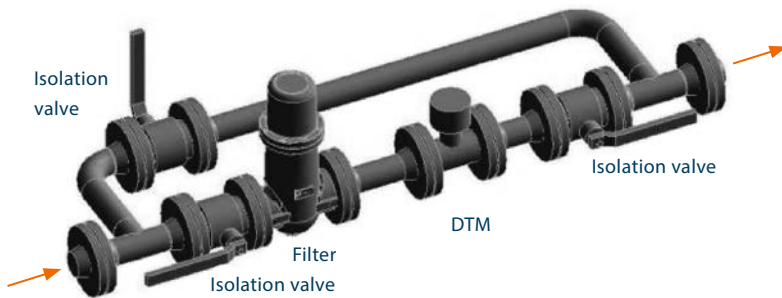
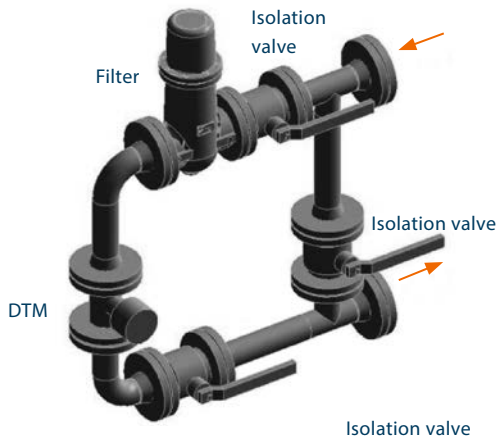

Figure 2: Typical horizontal installation of the DTM turbine gas meter (recommended)
Figure 3: Typical vertical installation of the DTM turbine gas meter (only DN ≤ 150)
2. Open slowly the upstream valve (fig. 2 and fig. 3) to pressurize the pipe until operation pressure is achieved.
5. Slightly open the downstream valve (fig. 21 and fig. 3).